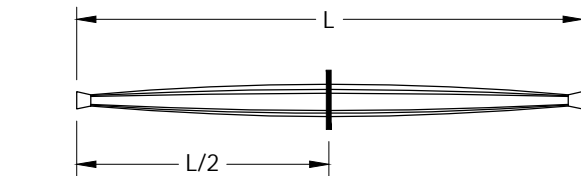

FIGURE 2
- C. MEASURE THE CONDUCTOR END, MAKING A PERMANENT MARK 1/2 THE LENGTH OF THE AUTOMATIC SLEEVE, FROM THE CONDUCTOR'S END. (FIGURE 2)